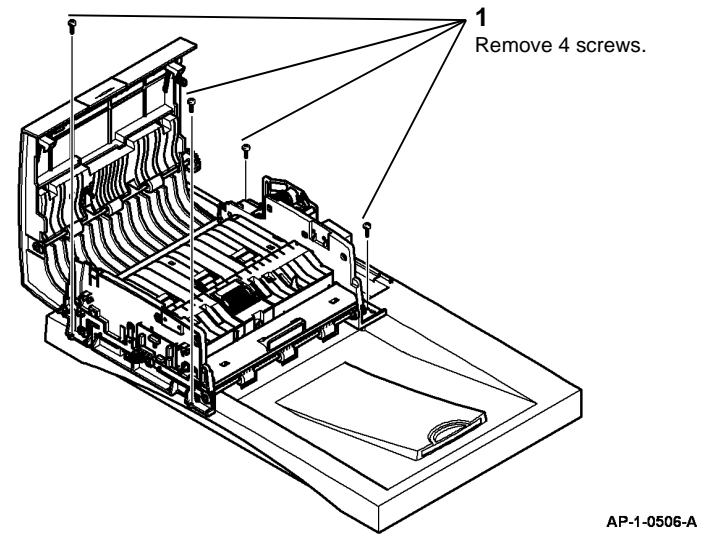

Figure 7 Preparation
8. Prepare to remove the top cover assembly, Figure 7.